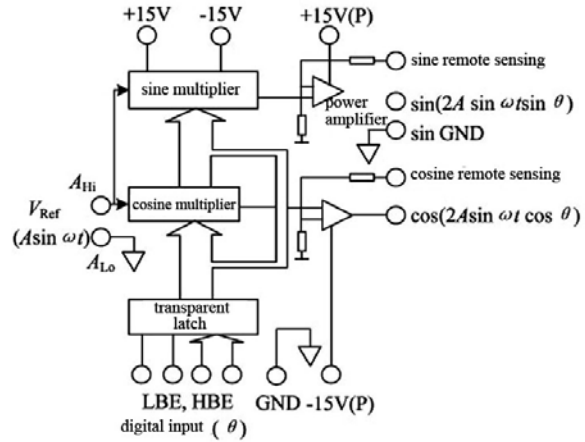

Fig. 2 Circuit block diagram
5. Circuit block diagram (Fig. 2)
(Note: the converter obtains 2 times gain from input to output. "GND" and "sinGND" in Fig. 2 are internal connection.)